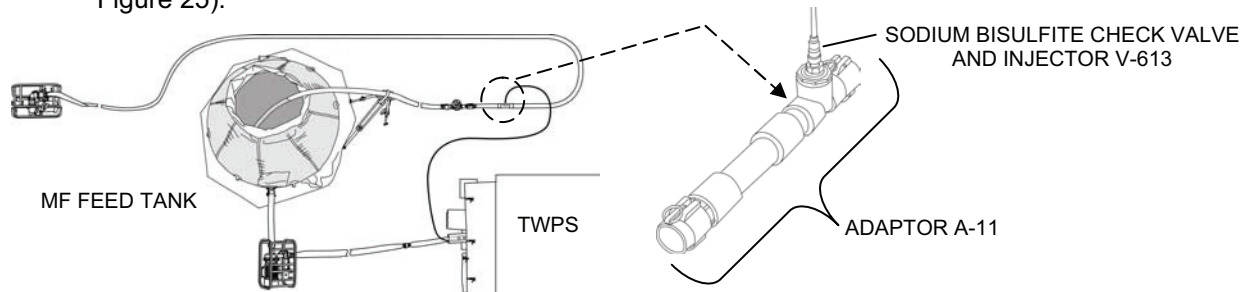

Figure 25. Sodium Bisulfite Chemical Injection Point.
- Injection Check Valve V-613, V-623, or V-633 (see Figure 25)
- Sodium bisulfite is injected through Adaptor A-11 in the raw water line to the MF feed tank (see Figure 25).